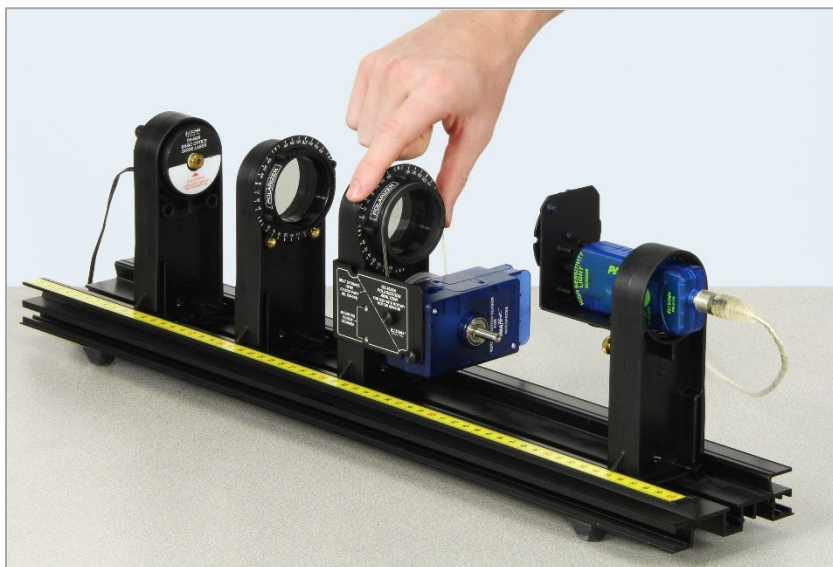

Figure 4: Equipment Separated to Show Components
- To allow the maximum intensity of light through both polarizers, replace the holder with the polarizer and Rotary Motion Sensor on the track, press RECORD, and then rotate polarizer that does have the Rotary Motion Sensor until the light intensity on the graph is at its maximum (see Figure 4 under the Setup A tab). Click STOP.